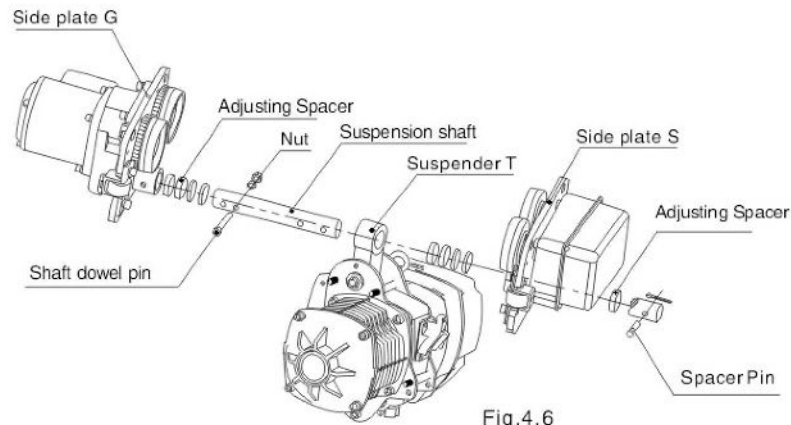

Fig.4.6
4.4 Installation of electric chain hoist with electric trolley (Fig.4.6)
- 3) As the Fig. 4.6 shown, do installation step by step. Firstly, install suspender T into hoist body, and insert the shaft into suspender T.